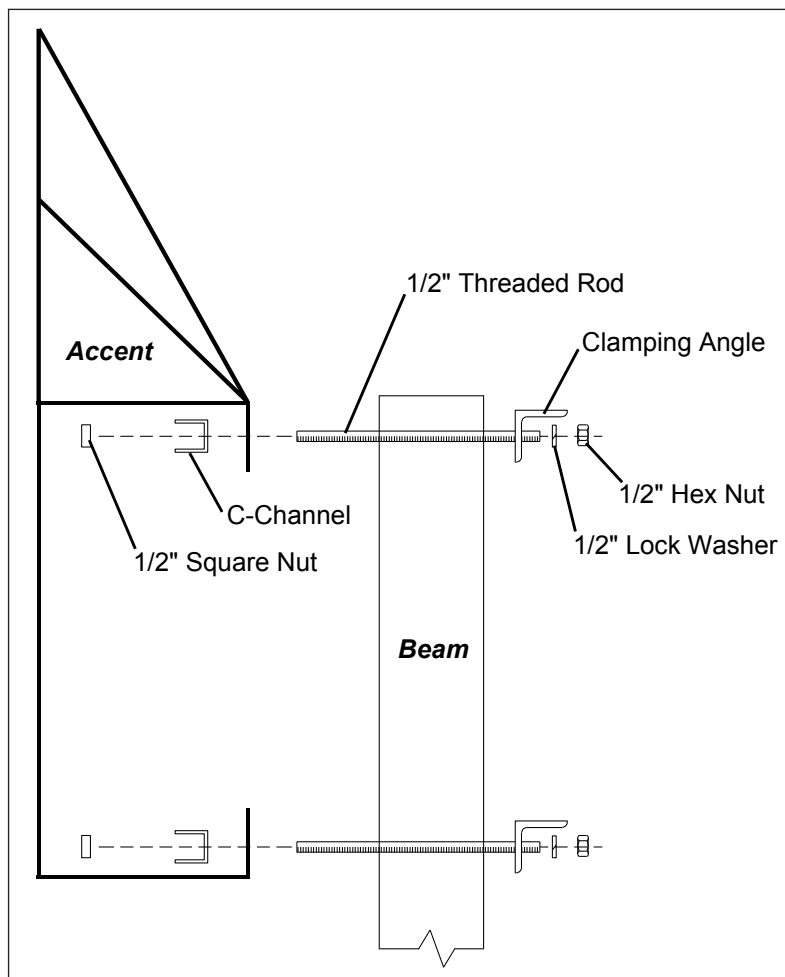

Figure 10: Dome Accent Mounting with Clamping Angles, Side View
Mounting hardware includes C-channels; rear clamping angles; 1/2-13 x 15" threaded rods; and 1/2" nuts and lock washers. Refer to **Figure 10** and **Drawing A-52187** in **Appendix A**.
3. Position a C-channel inside the accent cabinet along the rear flange as shown in **Figure 10**.